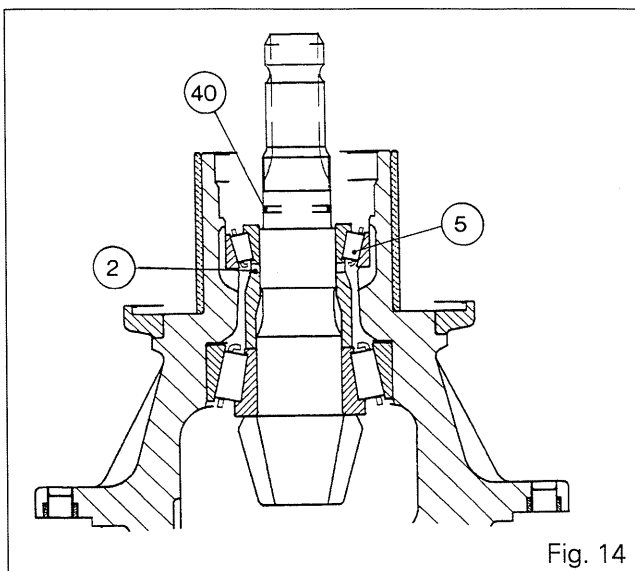

Fig. 14
49. Position the cup (6) fully home in the casing.
50. Slide the shim (2) defined in procedure 48 on the bevel drive pinion. Fit the bearing cone (5), the O-ring (40) and the spacer (3) (Fig. 14).